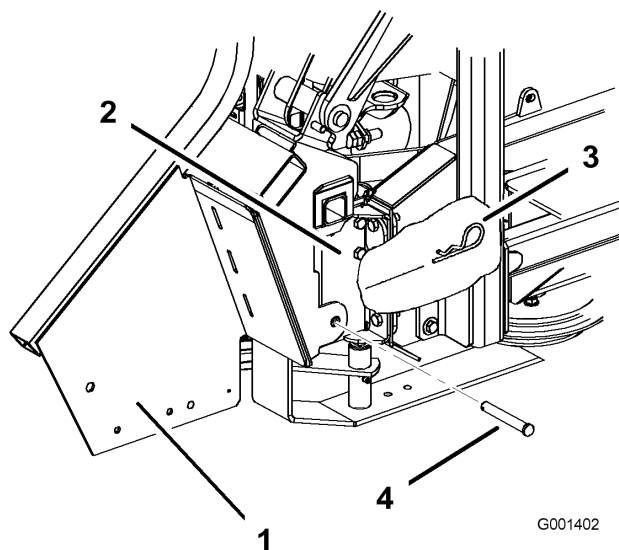

Figure 19
6. Install the bagger onto the bagger mounting bracket Figure 19
7. Install the 2 clevis pins into the bagger and bagger mounting bracket. Secure them with 2 hair pin cotters Figure 19